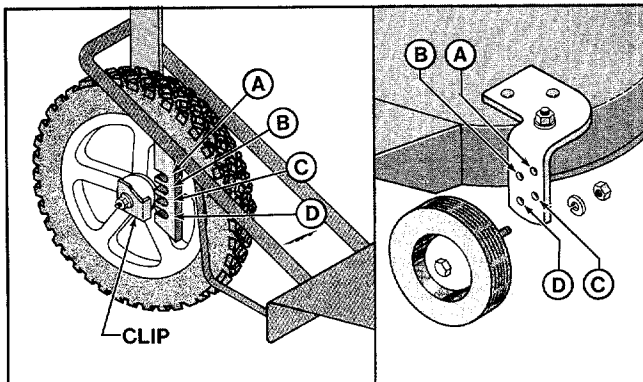

Figure 5-5: Wheel height adjustment positions.
- Using a 9/16" wrench, loosen, but do not remove, the inside and outside flanged lock nuts that secure the rear wheels in place. See Figure 5-5. Remove the wheels and replace them in the same corresponding slots (A, B, C or D) on both sides.
- Using 9/16" and 3/4" wrenches, remove the nut and lockwasher from each front wheel, leaving the mounting bolts in place. See Figure 5-5. Remove the wheels and replace them in the same corresponding